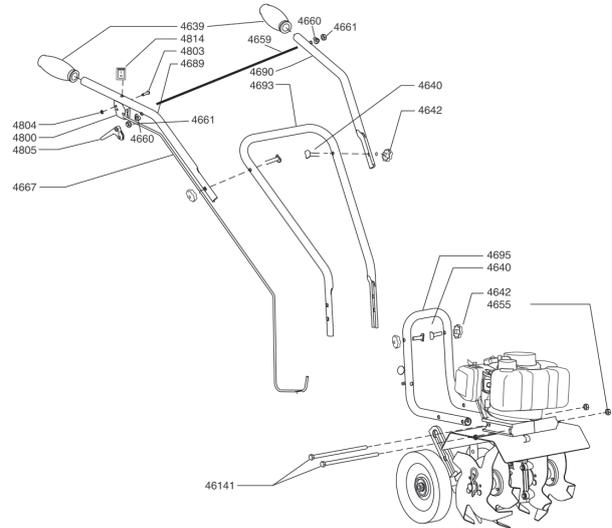

Figure 1
2. Attach the lower bar, please put the bar on and put the bolts (46141) the nuts assemble the lower handlebar see figure 1.
3. Using two tee handle nuts (4640), two bolts (4642), assemble the middle handlebar (4693) to the lower handlebar (4695) that is already attached to the mini cultivator assembly. See Figure 1. The middle handlebar can be installed in two positions one high and one low. **DO NOT** overtighten the tee handle nuts.
4. Before assembling the upper handle, please put the lever (4659) first and then Attach the upper right and left handlebars (4689 & 4690) to the middle handlebar using the two remaining tee handle nuts, bolts, and curved washers. See Figure 1. **DO NOT** overtighten the tee handle nuts.